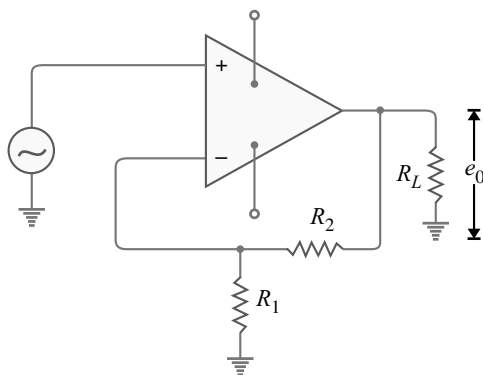

Fig. 11.44
6. Fig. 11.44 shows the negative feedback amplifier. If the gain of the amplifier without feedback is  $10^5$  and  $R_1 = 100 \Omega$ ,  $R_2 = 100 \text{ k}\Omega$ , find (i) feedback fraction (ii) gain with feedback. [(i) 0.001 (ii) 1000]